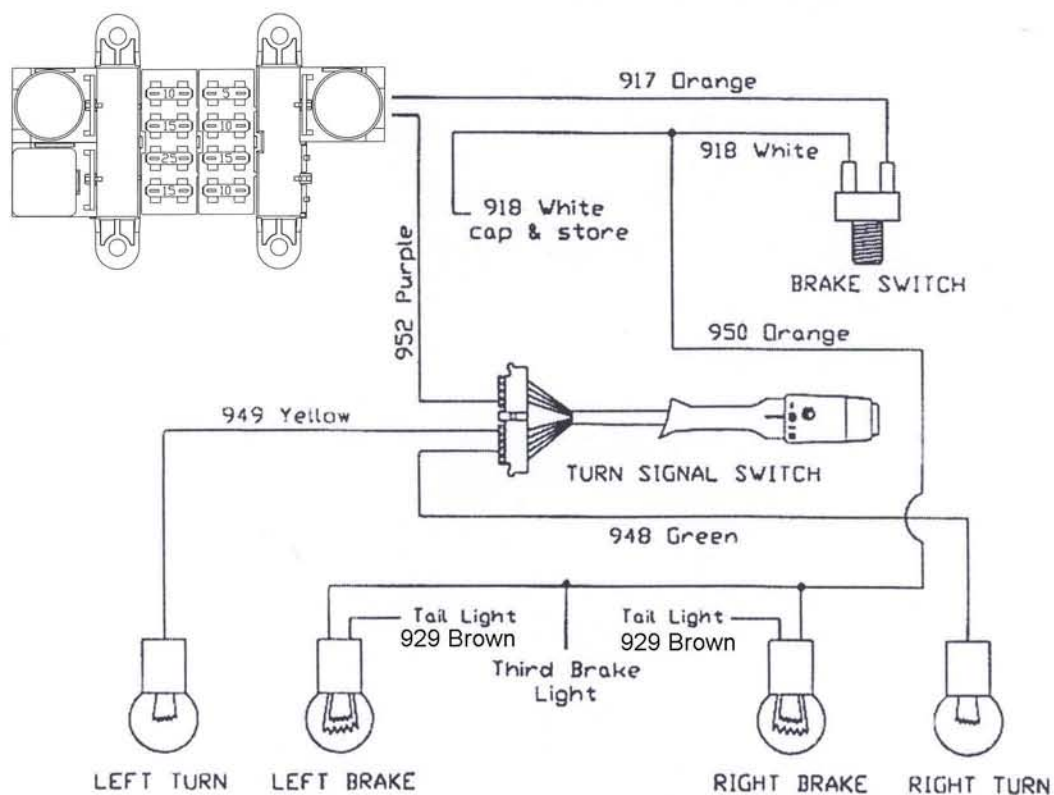

Figure 10-7 Integrated Brake Lights & Separate Turn/Brake Lights
- 10.8.2** These 4 wires will be connected according to one of the diagrams shown in **Figure 10-7**. Which diagram you will use depends on whether or not you have one bulb on each side of the vehicle that is for the brake/tail and Turn Signal Lights (this is referred to as integrated lights) or you have more than one bulb on each side and the Brake and Turn Signal Lights are hooked to different bulbs (referred to as separate Brake/Turn Lights).